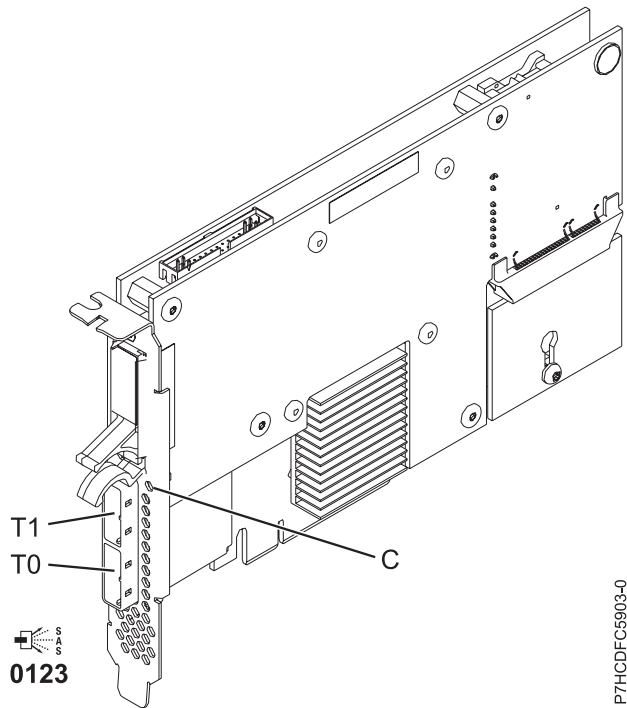

Figure 27. PCIe Dual - x4 3 Gb SAS RAID Adapter
The 5903 / 5805 contains a LED ((C) in Figure 27 on page 95) that flashes if the cache data is present. The cache-data present LED flashes when there is possible data in the cache on the adapter. If the cache data present LED is flashing, do not replace the cache battery pack. If replaced when the LED is flashing, the cache data is lost. See Figure 27 on page 95 to locate the cache-data present LED on this adapter.